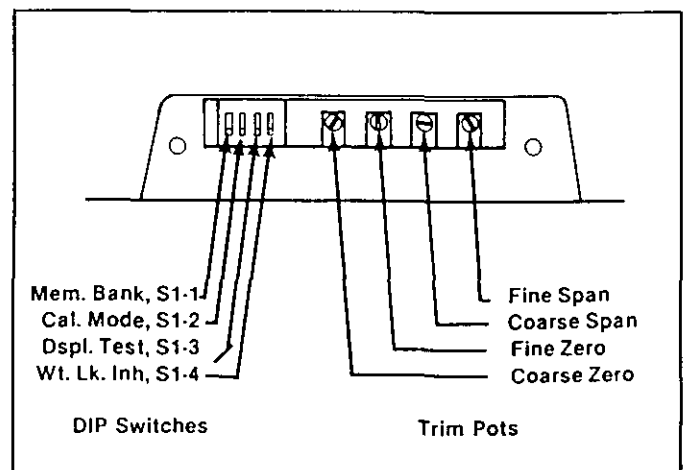

Fig. 4-2
Removing the hatch allows access to the four trim pots and quad DIP switch used in the calibration procedures (fig. 4-2).
2. Mechanically adjust the fine zero and span calibration pots to their mid-range (fig. 4-2).